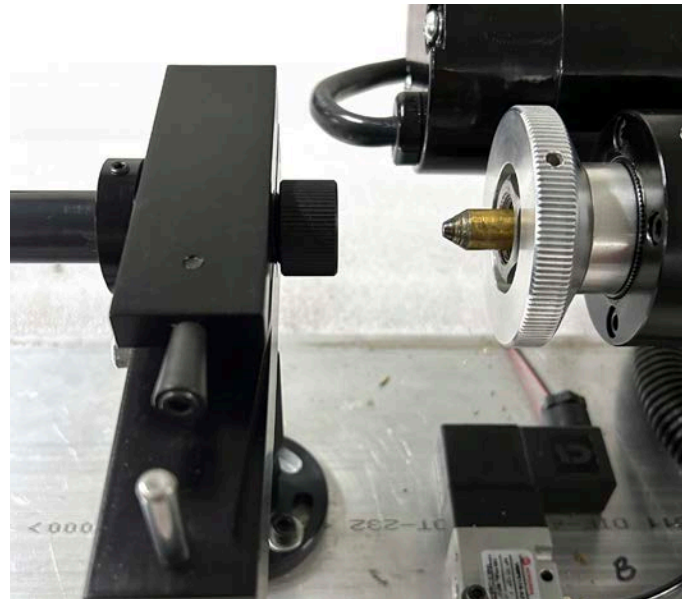

FIGURE 66
- B. If there is stock in the collet, open the collet and pull the stock forward to allow space in front of the bar feeder to move the bar feeder tube off to the side (see Figures 66 and 67).